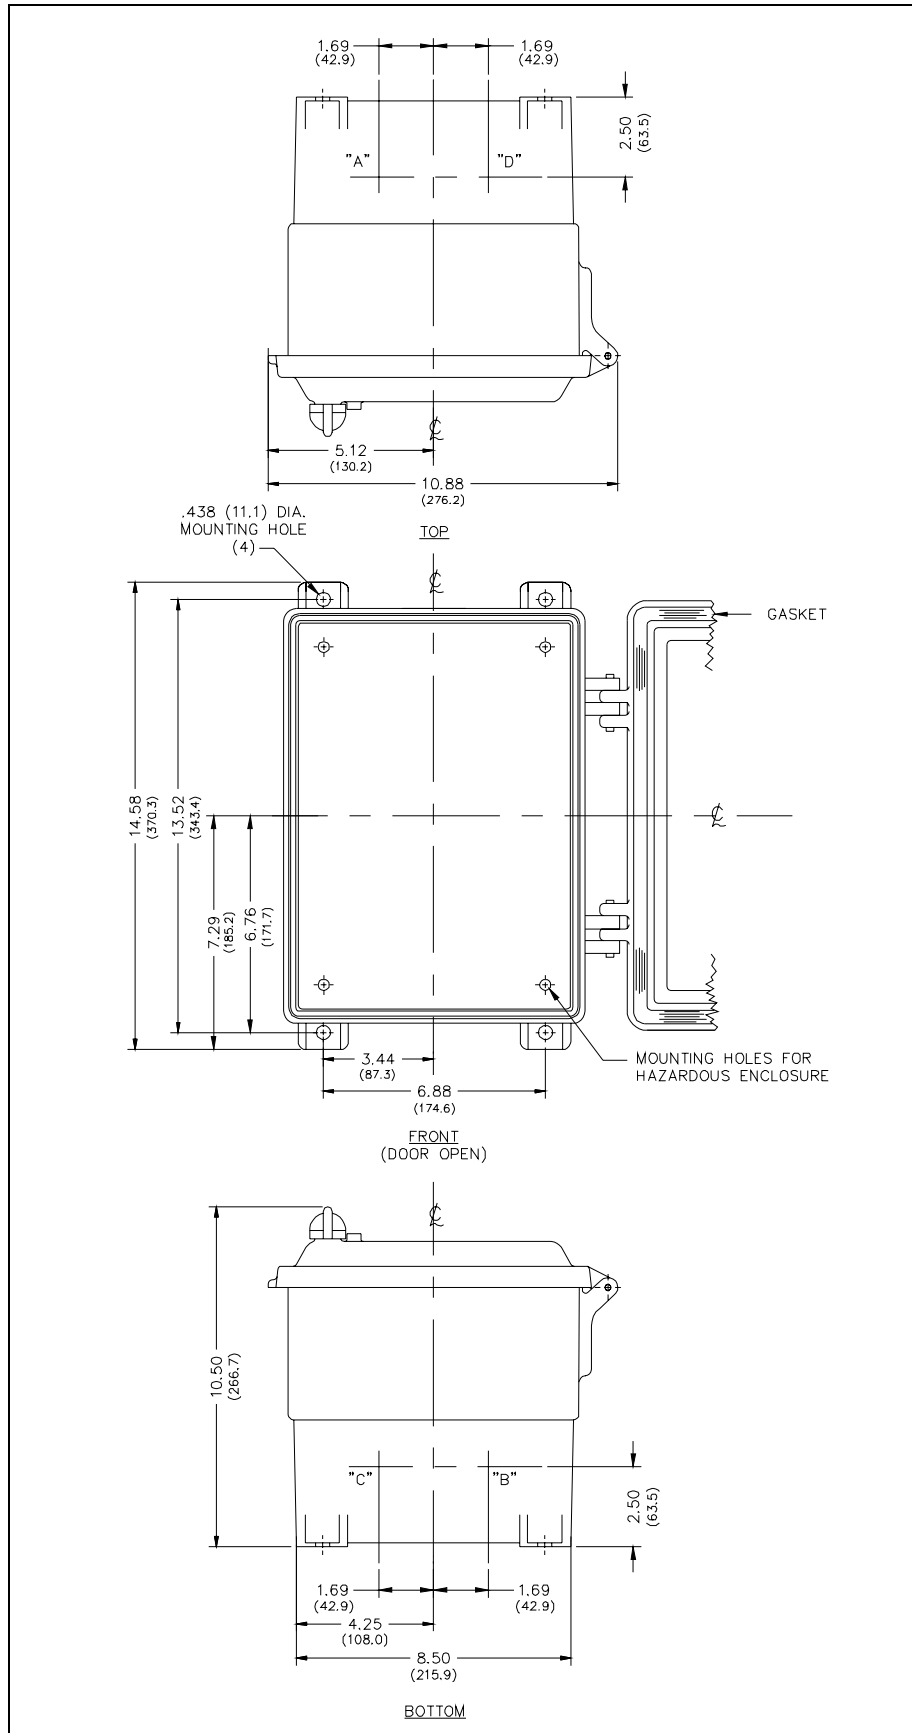

Figure 2. Mounting details for outdoor stations (multi-party station shown)
*Outdoor Station:* The outdoor model stations are shipped with a separate glass-reinforced polyester enclosure with a front door. This enclosure has four 0.44-inch diameter mounting feet in the 4 corners and is suitable for mounting to many types of surfaces. Refer to Figure 2.